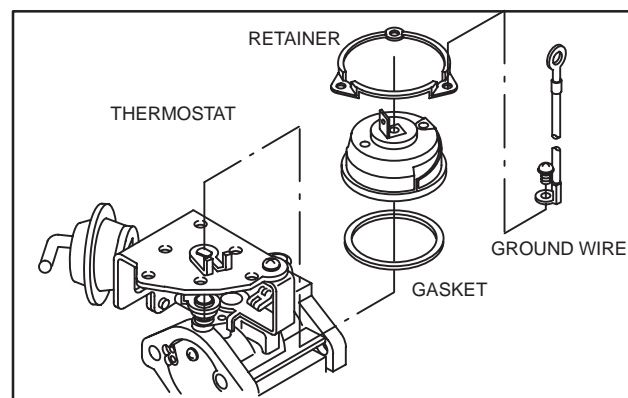

Fig. 32 – Removing Thermostat
6. Remove three screws, thermostat retainer and ground wire, Fig. 32. Discard thermostat gasket.